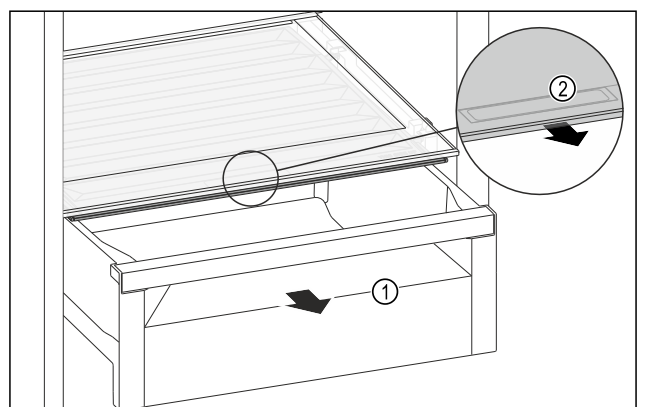

Fig. 146
- ▶ Pull out the drawer Fig. 146 (1).
- ▶ Grasp the recessed grip *Fig. 146 (2)* on the compartment lid and pull the compartment lid forwards at the same time.